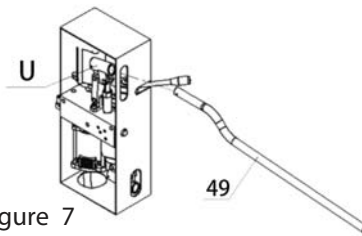

Figure 7
13. When operating the high pressure pump for low speed, insert the pump handle (#49) into the upper socket (U). (Figure 7)